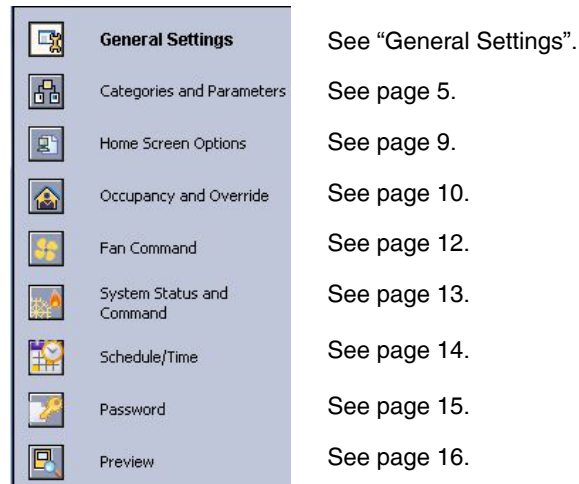

Fig. 5. Wall Module - Configuration Wizard window showing Menu selections only.
3. Left click on the title, Configuration Properties. This action starts the Configuration Wizard. The Configuration Wizard steps (see Fig. 5 on page 4) are used to configure the wall module.
2. Left click on Configure Properties. The Configuration Wizard opens. The Configuration Wizard steps (see Fig. 5) are used to configure the wall module.